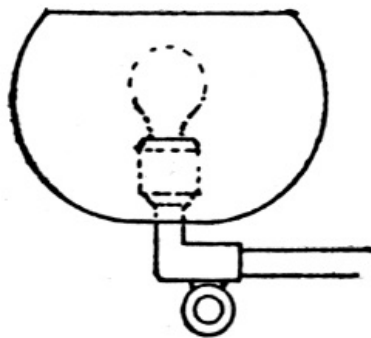

FIGURE 199.
*Gas Globes.*—Electric light is so convenient on the stage that even gas light is imitated by it. In one production in which it was desirable to show the front of a theater illuminated by gas, the gas globes were made up of cloth cut as shown in Figure 199. Behind each imitation globe a small incandescent lamp was arranged.